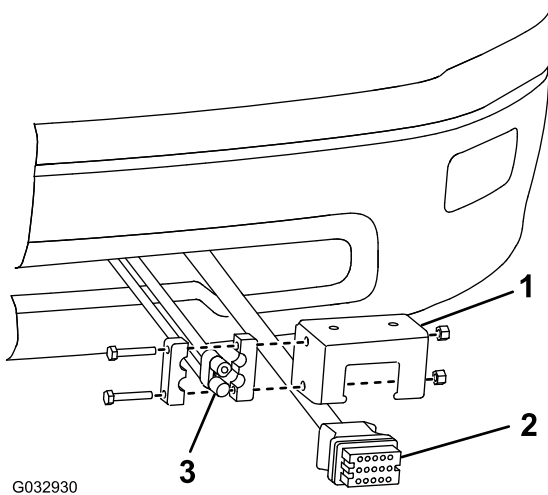

Figure 19
27. Mount the truck-side, wire-harness plow connector to the lower part of the bumper using the control-harness mounting-bracket (Figure 19).
28. Mount the black and red power/ground connector to the control harness mounting bracket (Figure 19).